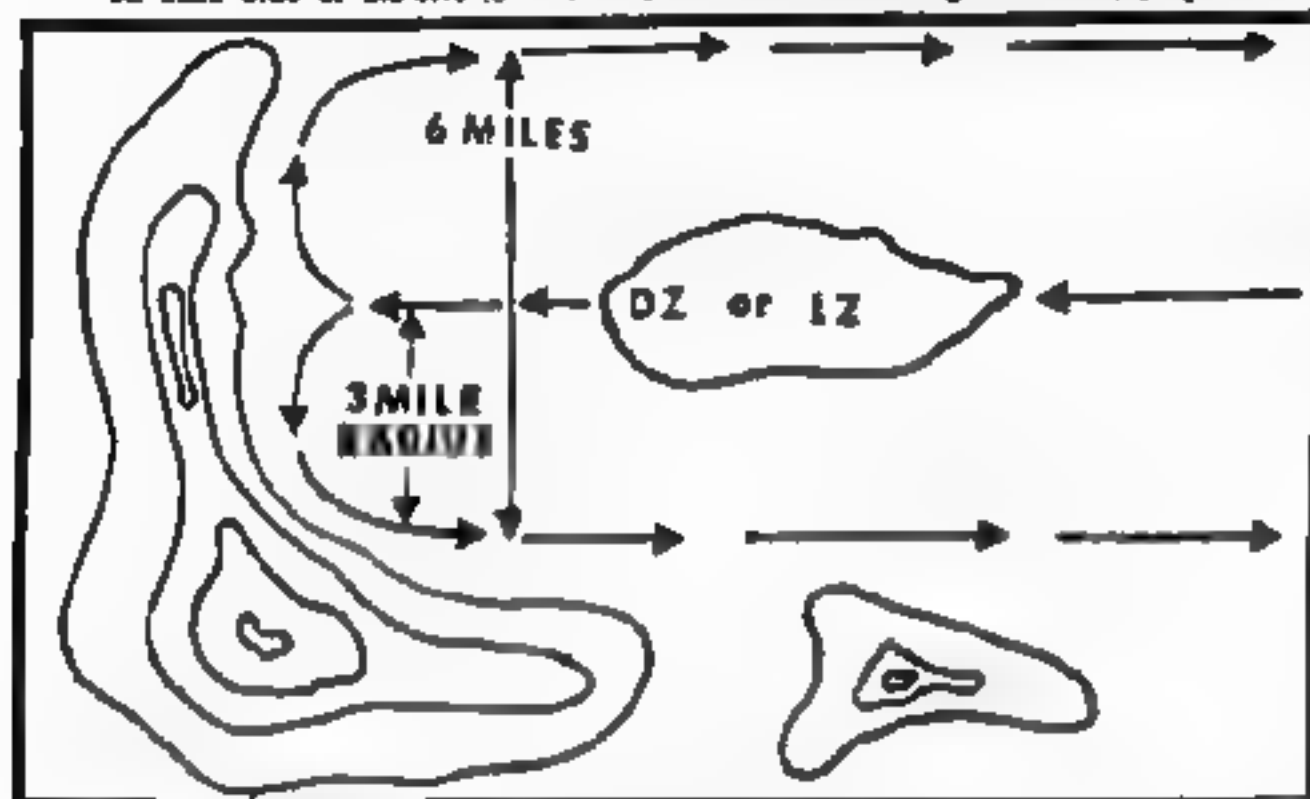

Figure 1
(f) DZ's having a single clear line of approach are acceptable for medium aircraft, provided: (1) a level turning radius of 3 miles (5 kilometers) on each side of the site; (2) a level turning radius of 1.5 miles (2.5 kilometers) for light aircraft (Figure 1).